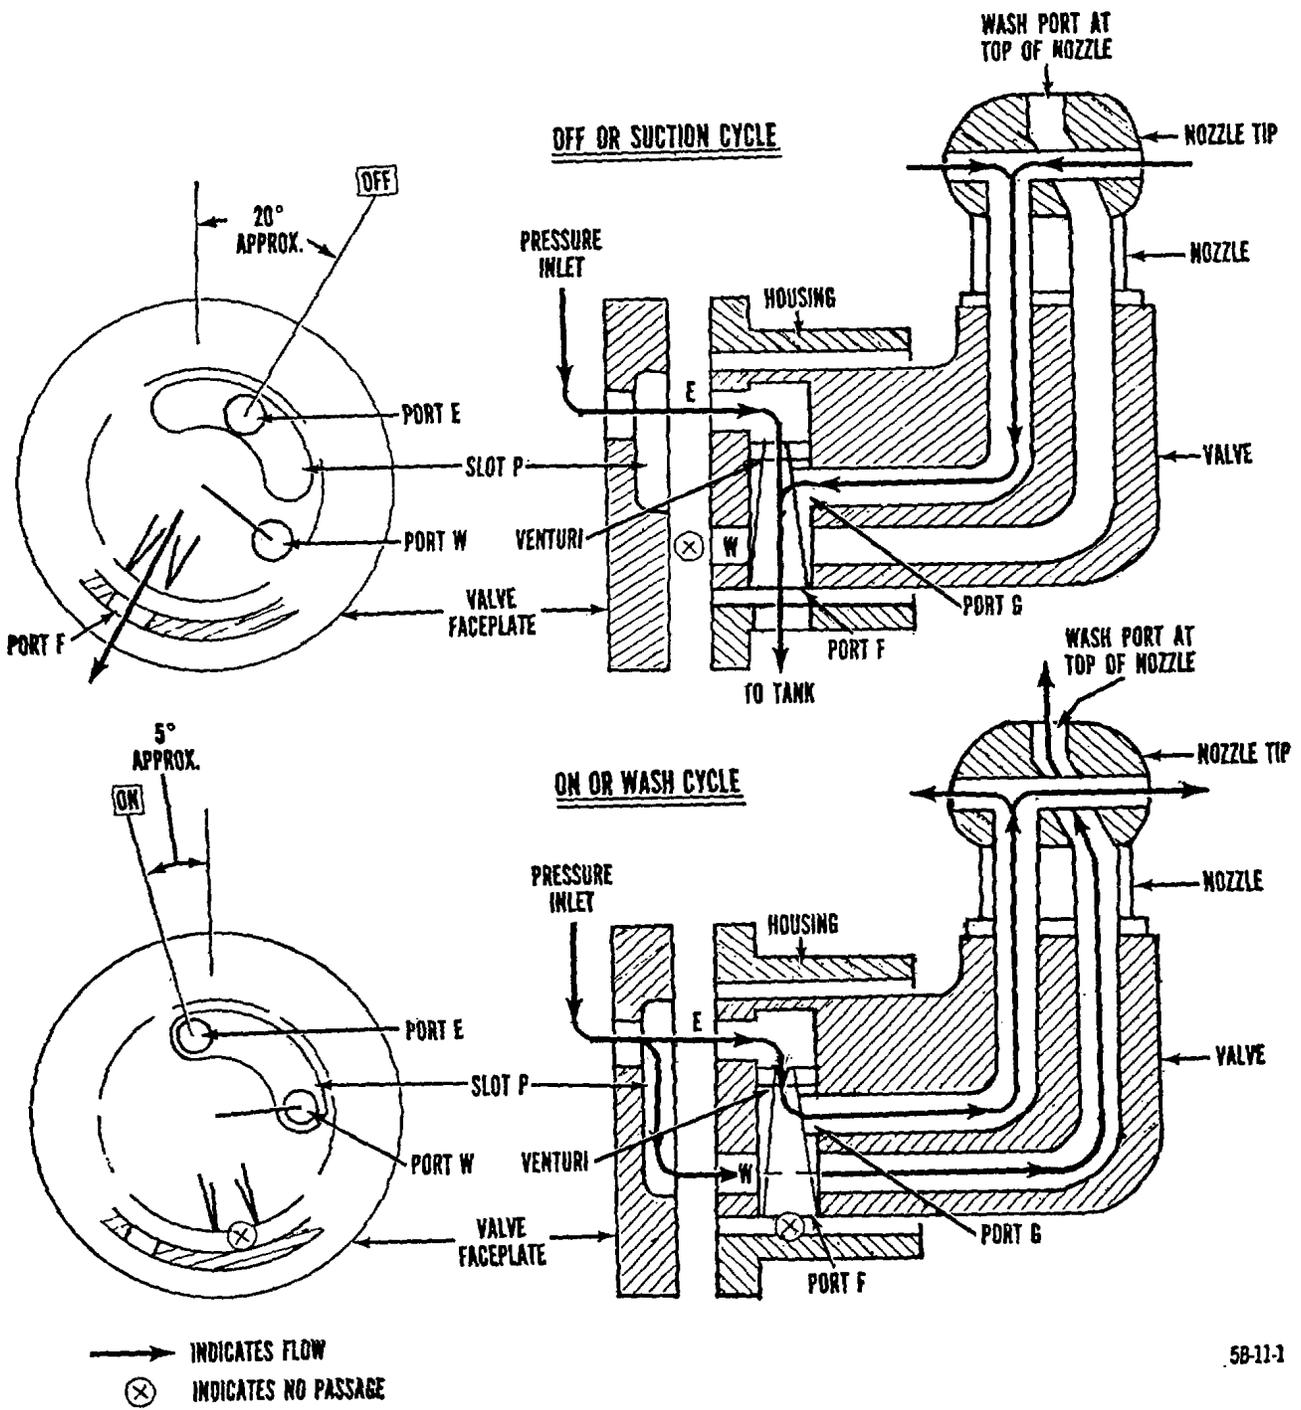

Figure 1. Cradle-valve flow chart.
- (1) Third echelon maintenance is that degree of maintenance authorized by pertinent publications to be performed by specially trained units in direct support of one or more using organizations, and is limited by specified authorizations of tools, parts, and equipment. These units support the lower echelons by providing technical assistance and mobile repair crews, when necessary, or in repairing the overflow from lower echelons.
- (2) Fourth echelon maintenance is that degree of maintenance authorized by pertinent publications to be performed by units organized as semifixed or permanent shops to serve lower echelons within a geographic area, and may furnish mobile repair crews or reinforcing elements to lower echelons when required.
a. *Function.* The cradle-valve assembly is designed to cause a suction action when the valve is rotated to the OFF position and to cause pressure action when it is in the ON position. To understand the flow of liquid through the valve, study figure 1.
(1) *Suction.* The top portion of figure 1 illustrates the valve in the OFF position. The valve faceplate and the valve housing are bolted together and remain stationary when the valve is rotated. The faceplate is provided with a single inlet (pressure inlet) and a slot (slot P). When the valve is rotated to the OFF position, port E is open and port W is closed. Because of this alinement of ports, the incoming liquid is forced to enter the smaller opening in the venturi. The velocity of liquid passing port G is such that it creates sufficient suction at this point to evacuate, through the nozzle tip, the cleaning solvent that remained in the 5-gallon can after washing.
(2) *Flushing.* The bottom portion of figure 1 shows the flow of the liquid when the valve is in the flushing position. When the valve is rotated to the ON or flushing position, solvent is permitted to enter both port E and port W. It is then forced through the openings on the nozzle tip into the 5-gallon can. Since port F is closed there can be no suction action when the valve is in the flushing position.